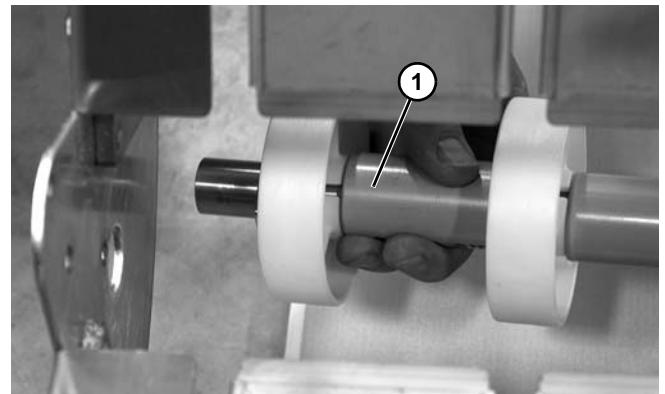

Figure 121
4. Remove lower shaft assembly (Figure 121, item 1).